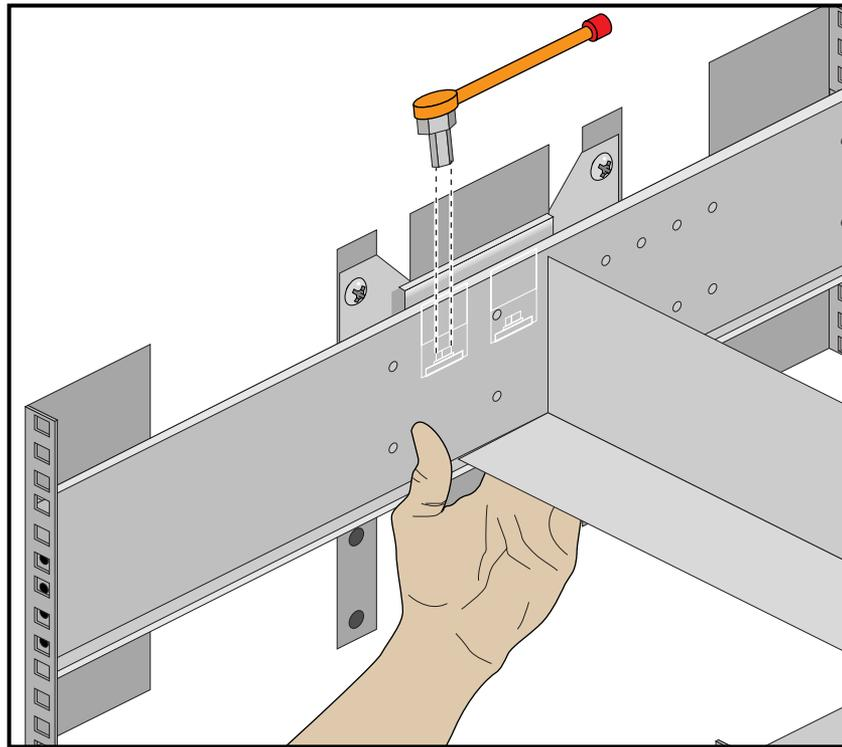

Figure 2-2 Alignment with the D-Rack Stiffener Vertical Bolt
2. Attach the inner bracket to the outer bracket using the vertical bolt and socket wrench (Figure 2-2). Do **not** tighten these bolts all the way. They will be used later for altering rail alignment using the alignment tool.